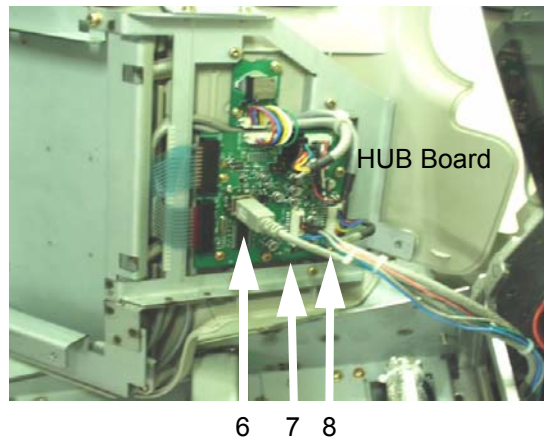

Figure 8-50 Disconnect 3 connectors from the HUB
- 4.) Disconnect three connectors (6-8) from the HUB board. Refer to Figure 8-50 on page 8-14 .